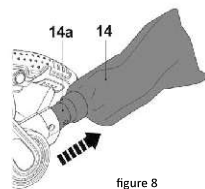

figure 8
- To remove the dust bag (14), hold the connector (14a) and pull it off (figure 8).